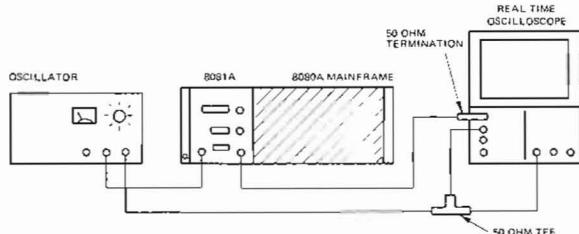

Figure 4-3. External Trigger Mode (Slow) Test Setup
- Set up the equipment as shown in figure 4-3 and set the controls as follows: